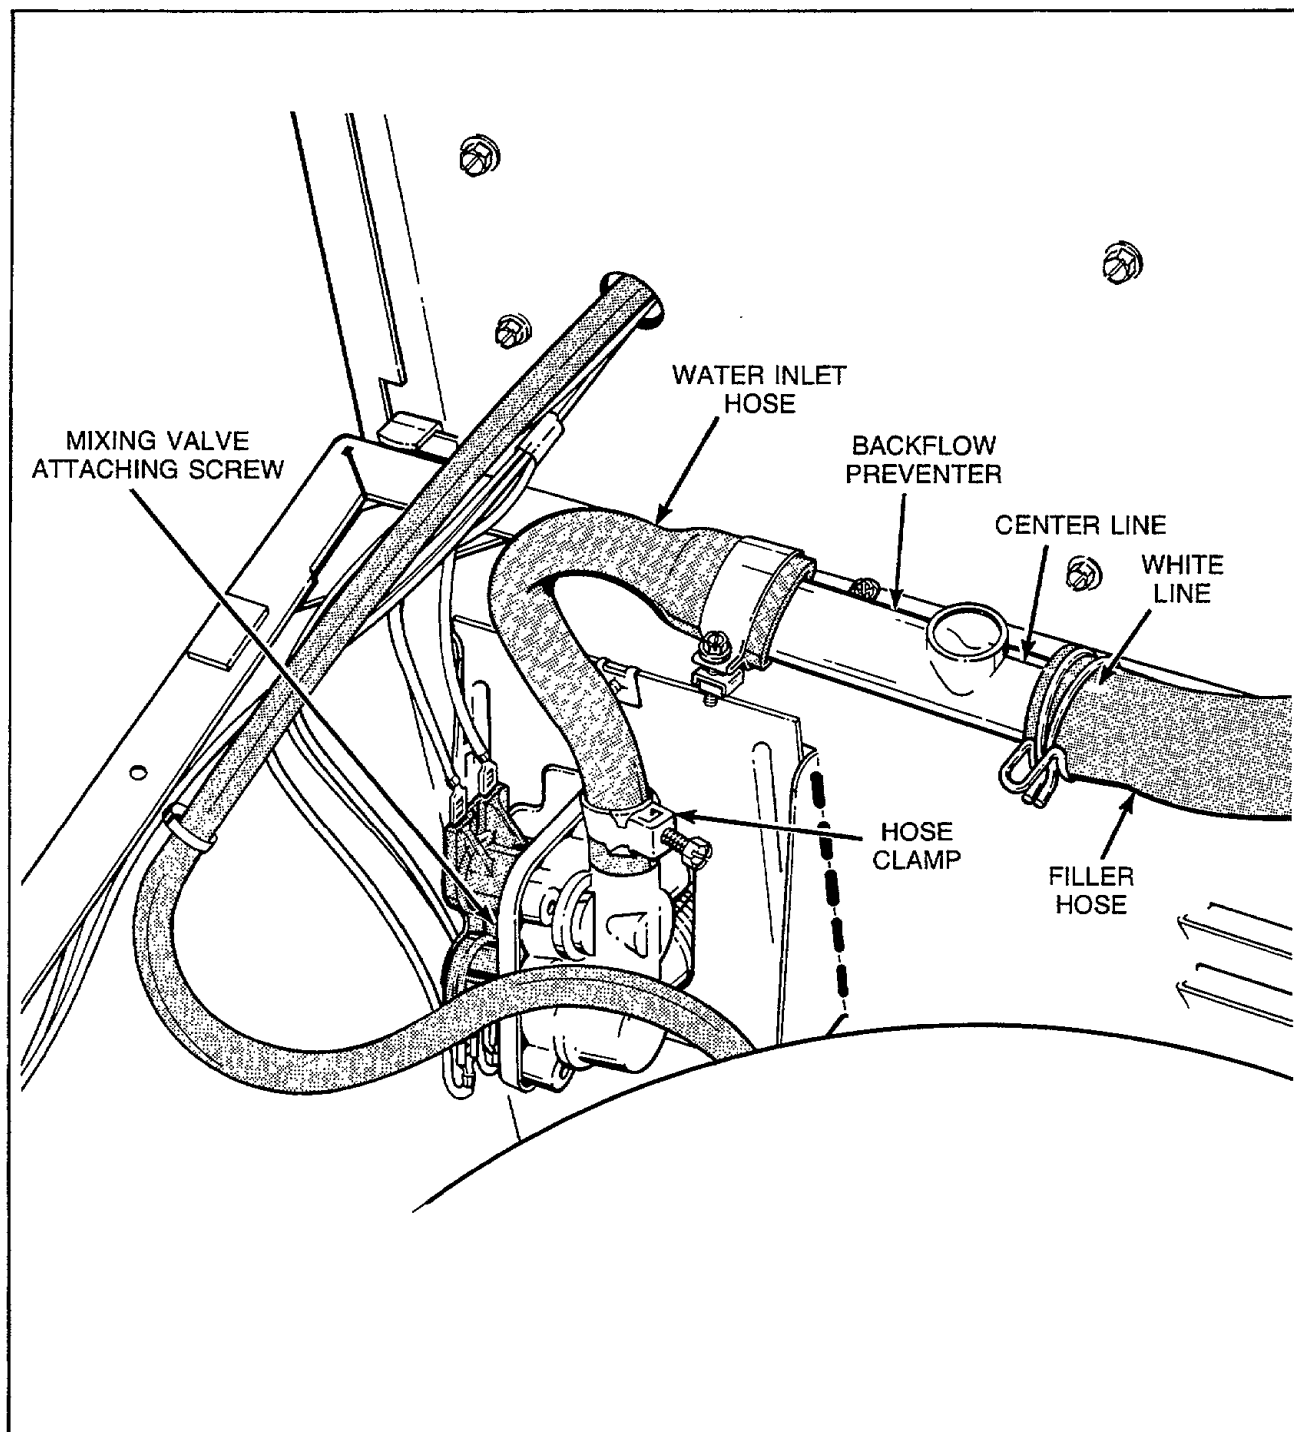

Figure 20
- Remove screw holding mixing valve to mounting bracket at rear of washer cabinet, *Figure 20*.
- Pull mixing valve out toward front of washer far enough to permit disconnecting water inlet hoses from mixing valve, *Figure 20*.
- Disconnect filler hose from back flow preventer, *Figure 20*.
NOTE: (Starting with serial no. N3605085), when installing filler hose, white line on hose must be aligned with center line of backflow preventer, *Figure 20*.
NOTE: When reinstalling filler hose, white line on hose must be aligned with center line of backflow prevent, *Figure 20*.
NOTE: When reinstalling filler hose, white line on hose must be aligned with center line of backflow preventer, *Figure 20*.